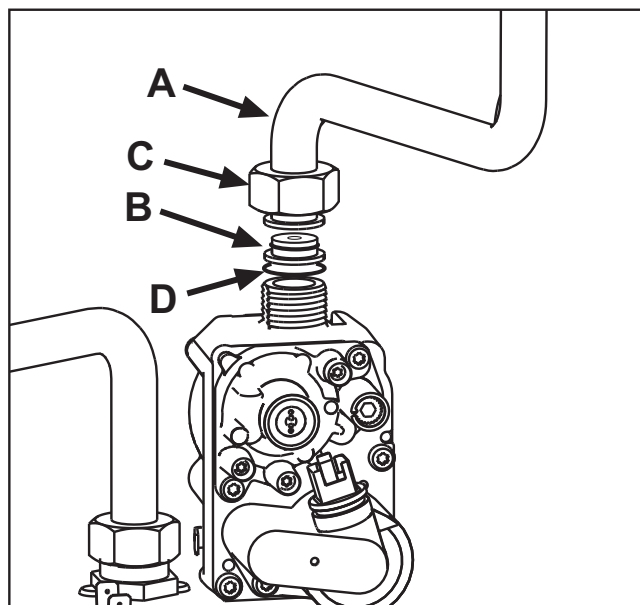

fig. 22
4. Unscrew ring **C** and remove gas pipe **A** from the gas valve (see fig. 22).
5. Replace nozzle **B** inserted in the gas pipe with that contained in the conversion kit, interposing seal **D** (see fig. 22).